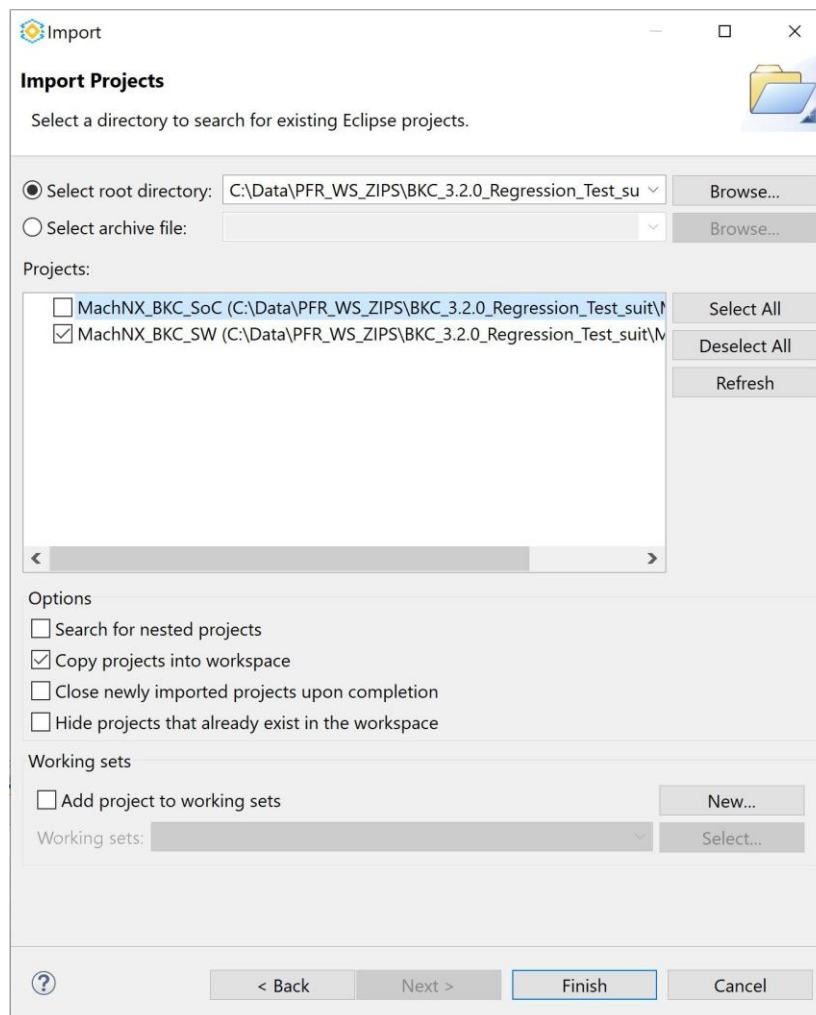

Figure 3.19. Import Projects
- The **Import Projects** page opens. In **Select root directory**, click **Browse** and select the folder where the unzipped Source and Project Files are located. See Figure 3.19.